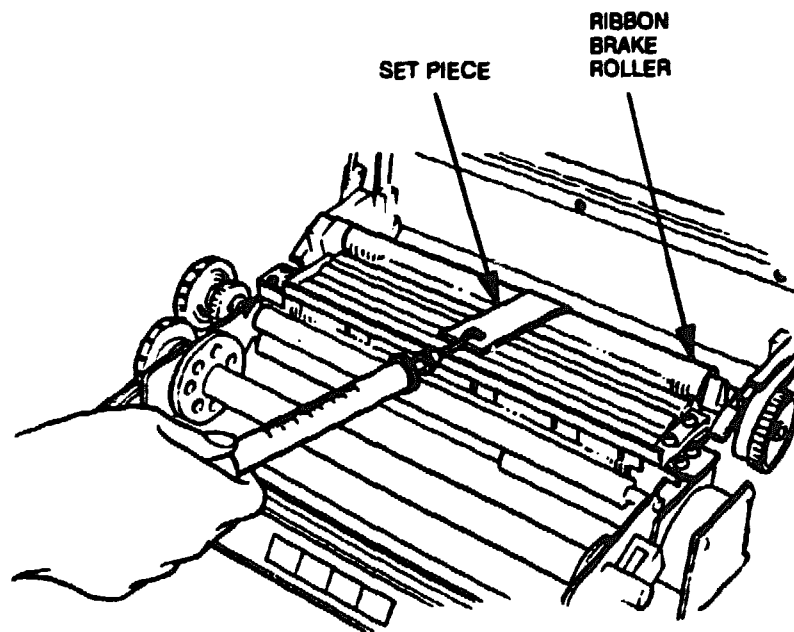

Figure 4-12 Ribbon Brake Roller Friction Measurement
2. Attach a set piece on the ribbon brake roller with a piece of tape. Wind the set piece two complete turns around the ribbon brake roller (see Figure 4-12).